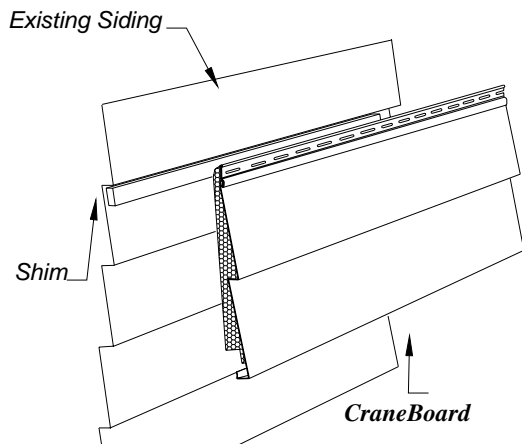

Figure 12.
- The wider coverage feature of CraneBoard siding is designed to allow installation over existing siding without first “leveling” the wall with foam underlayments or furring strips. To achieve the straightest installation possible, both horizontally as well as vertically, it may be desirable to “float” the CraneBoard panel by adjusting the depth of nailing. It can be helpful when installing over deep profile siding to place a shim under the return of the existing siding as shown in the diagram. This will also result in a firmer, more solid feel to the new siding (Fig. 12).